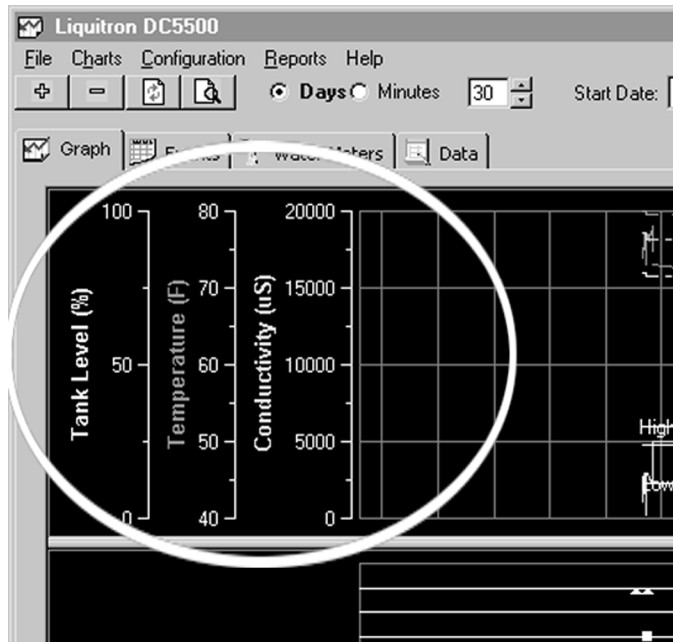

Figure 10-10: Graphing Mode Window Movable Scales
7. If you are using a modem to make your connection to the Controller through the LMI LiquiComm™ Communication Module, make sure that next to CONNECTION: the REMOTE DOWNLOAD option button is selected, as shown in Figure 10-10.
Refer to Figure 10-10. The three plots can be separated by clicking and dragging your mouse up and down over any of the three scale ranges on the left side of the graphical plot area.